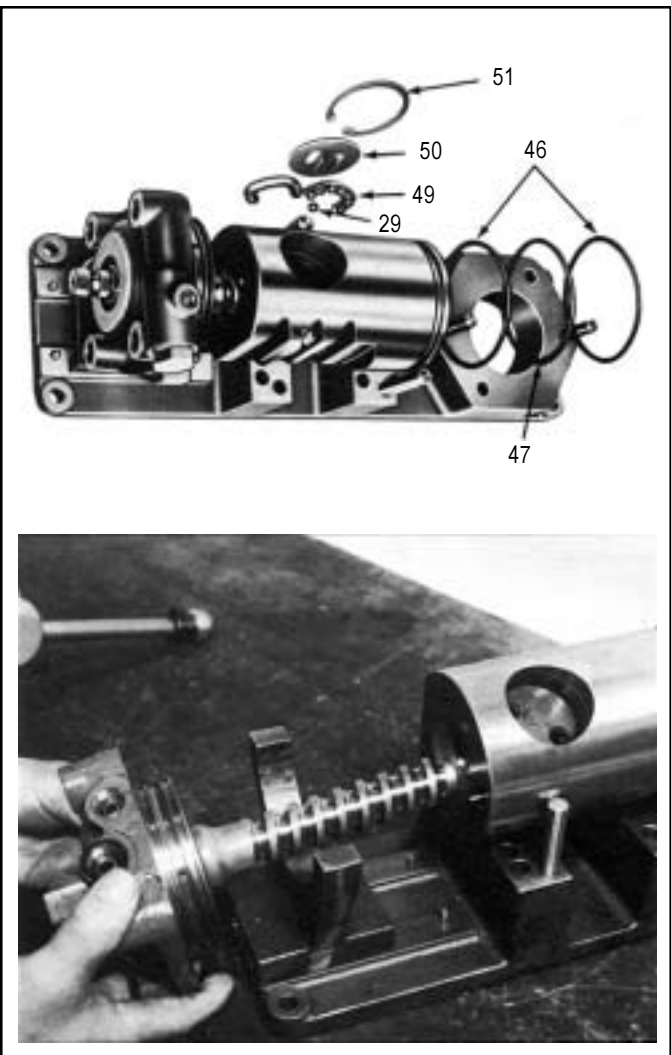

FIGURE 36
Install the ball screw by inserting it into the piston (48). (See Figure 36)
Install the O-Ring(47) and back-up rings(46) on the piston. (See Figures 36 & 40)